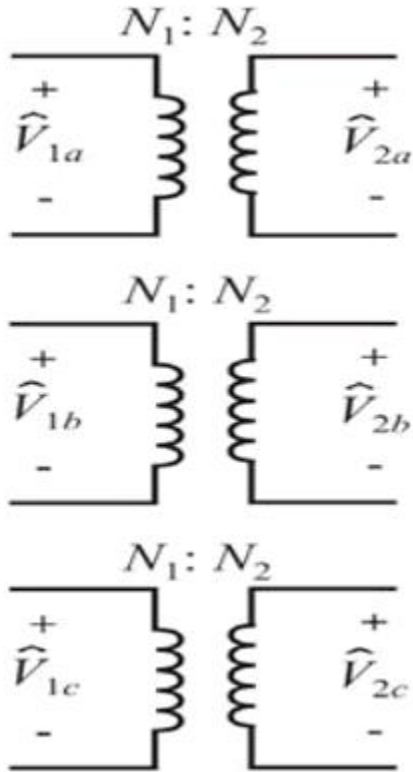

Fig 2.17 Three phase transformer ideal model
For practical calculations, it is reasonable to model the three-phase transformer as three ideal transformers as shown in Figure 2.17. Since these transformers are ideal, the secondary voltages are related to the primary voltages by the turn's ratio:
Considering the individual transformers of Figure 2.17 and that both delta and wye connections are possible for the primary and secondary windings, there are four possible combinations of transformer connections. The most straightforward combinations are the wye-to-wye connection and the delta-to-delta connections shown in Figures 2.20 (S) and (B) respectively. In these cases, the line to-line voltages on the secondary side are directly proportional to those on the primary side through the turn's ratio. Therefore, the following relationship holds for both connections.
In Figures 2.20 (A) and (B), the ideal transforms are schematically rotated by 120° from each other to represent a 120° electrical displacement in the voltages. The voltage labels on the individual coils correspond to the labels in Figure 2.17. An equation similar to (4) can be derived to relate the primary and secondary currents if desired.